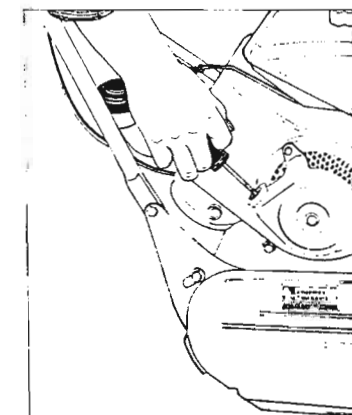

Fig. 6
6. Hold the mower firmly with the left hand, pull starter handle (2) slowly until compression resistance is felt and continue to pull until resistance ceases. Allow cord to recoil and then pull handle smartly when engine will fire (Fig. 6).